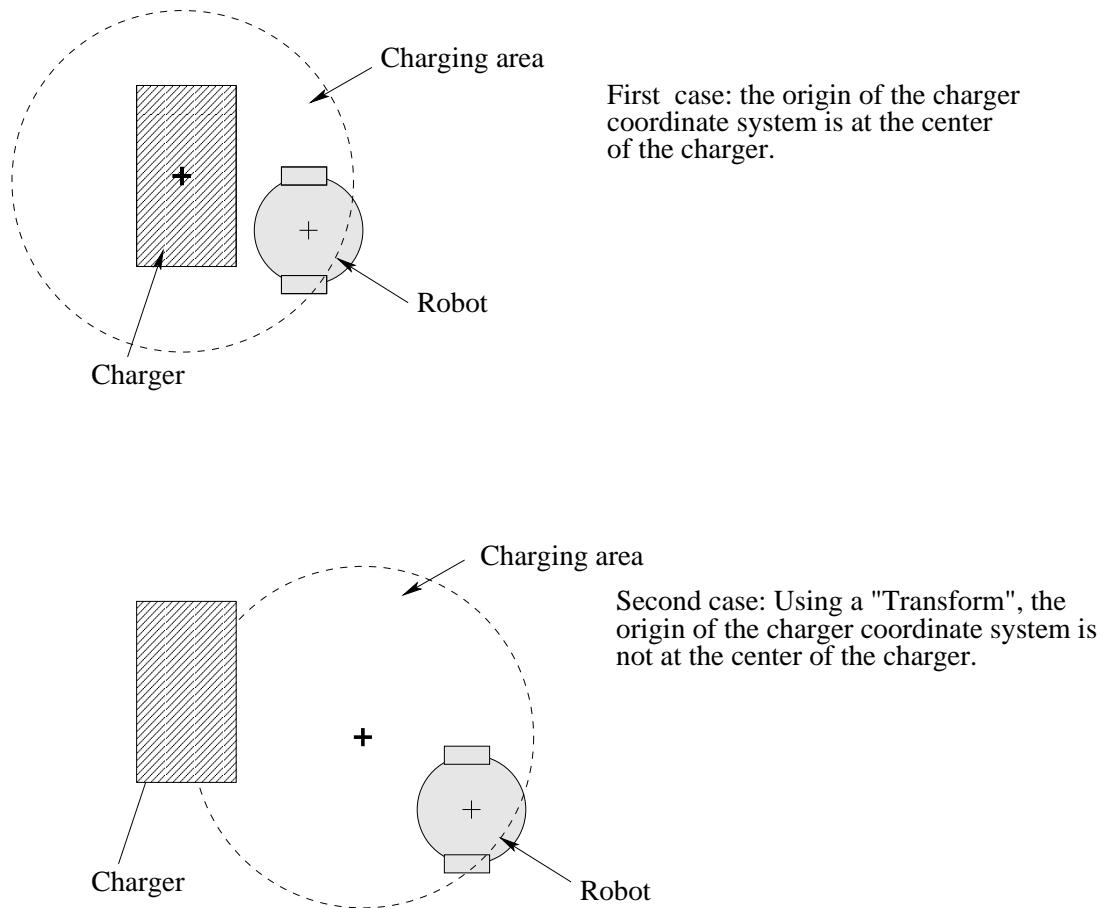

Figure 3.4: The sensitive area of a charger
- `radius`: radius of the charging area in meters. The charging area is a disk centered on the origin of the charger coordinate system. The robot can recharge itself if its origin is in the charging area (see figure 3.4).